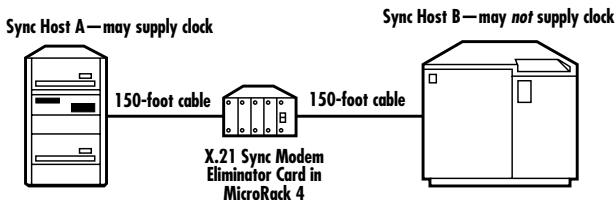

Figure 4-3. Maximum allowable cable distances.
- a) Each multipair cable *must not exceed 150 feet (45.7 m) in length* (see Figure 4-3).